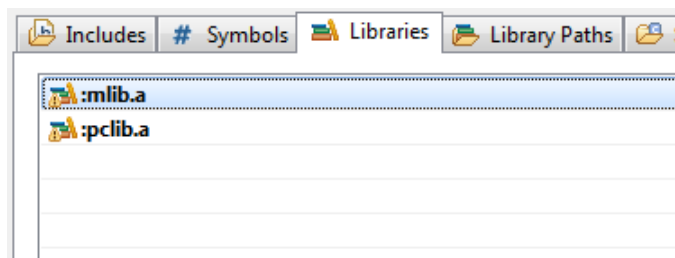

Figure 1-14. Libraries
9. After adding the library paths, add the library files. Click the Libraries tab. See Figure 1-14.
14. Click OK, and you will see the added in the list. See Figure 1-14.